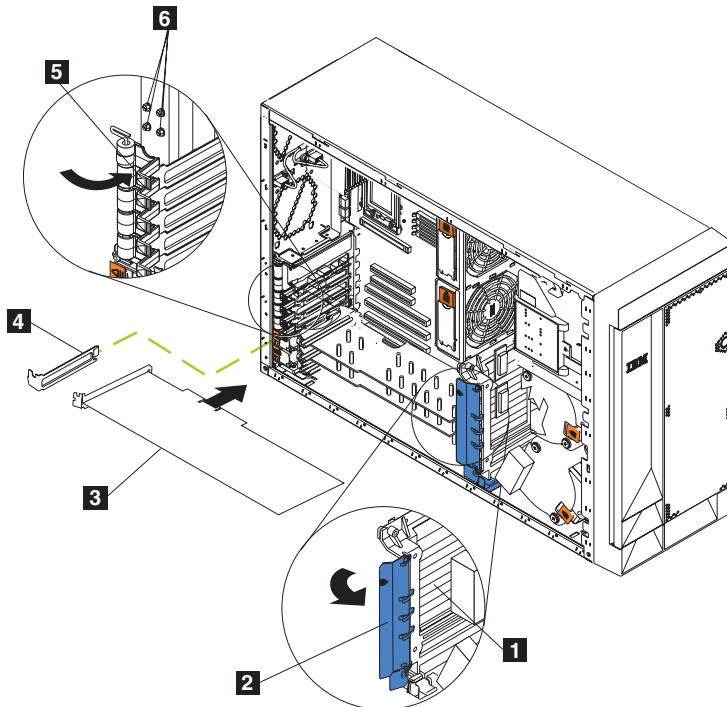
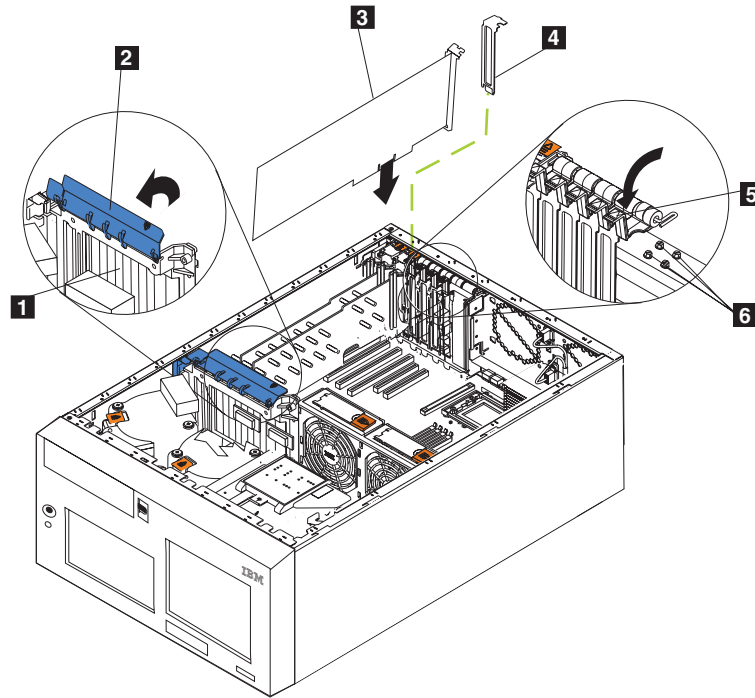

Figure 104. Installing a Remote Supervisor Adapter (Model 25T)
Figure 105. Installing a Remote Supervisor Adapter (Model 25T with the rack-mount conversion feature)
7. Slide the expansion-slot cover from PCI slot 1 (see Figure 104 and Figure 105 on page 173). Store it in a safe place.
- c. Secure the adapter with a screw: insert one of the backup expansion-slot screws (see Figure 104 on page 172 and Figure 105 for the location of the screws) through the top of the adapter bracket into the screw hole to secure the adapter.